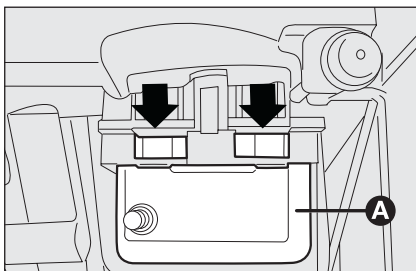

fig. 37
- ☐ work at the points shown by the arrows and remove the courtesy light **A-fig. 37**;
- ☐ refit the courtesy light **A-fig.37** in its housing making sure that it is secure.